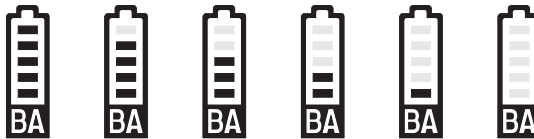

Fig. 18
- (1) Press ACT button, "SynC" appears on the VFD screen and ACT Sync can be operated. If the transmitter was not synchronized within 10 seconds, the word "FAILEd" appears on the VFD screen.
- (2) Ensure transmitter is powered-on. Align the ACT IR port of both transmitter and receiver within 30 cm.
- (3) Once sync is completed and successfully, the ACT function will stop automatically and GRP parameters & full grid of RF meter ⑩ are displayed on the VFD screen. The LCD on the transmitter also displayed the same group and channel of receiver simultaneously.
(A) BA  displays the battery meter in percentage (%) indication of remaining battery life when received the transmitter signal. Replace with new, fresh batteries when battery indicators fall to 10% (1 indicator remaining), as shown in Fig. 18.